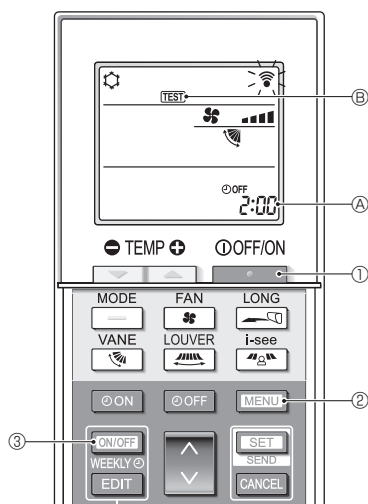

Fig. 7-5
7.2.2. Using wireless remote controller (Fig. 7-5)
- Press the [ON/OFF] button ① to stop the air conditioner.
- If the weekly timer is enabled (WEEKLY is on), press the [ON/OFF WEEKLY] button ③ to disable it (WEEKLY is off).
- Press the [MENU] button ② for 5 seconds.
- Press the [MENU] button ②.
- [TEST] ② comes on and the unit enters the test run mode.